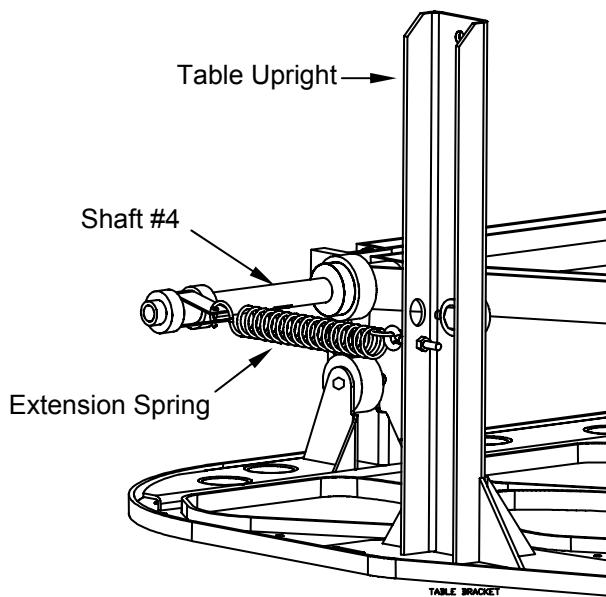

Figure 4.2-17
4. Disconnect the extension springs (one on each side) which attach yoke shaft #4 to the table uprights. (See Figure 4.2-17.)